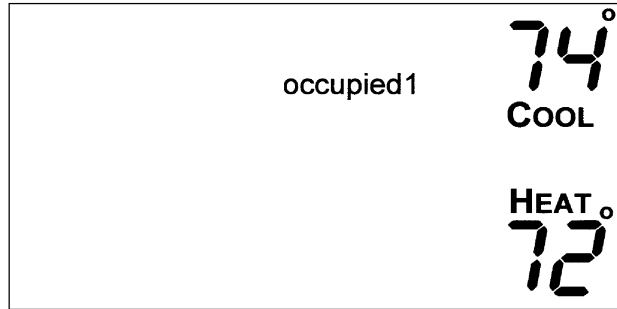

Fig. 5 — Setting Occupied 1 Set Points
1. Enter programming mode by pressing the Program button. The Occupied 1 annunciator will appear on the thermostat display. Use the UP ARROW and DOWN ARROW buttons to set the maximum number of Occupied periods for each day. The thermostat can be set to 1, 2, or 3. After the number of Occupied periods has been selected, press the Mode button. See Fig. 5.
2. The cooling set point for Occupied 1 will be displayed. Use the UP ARROW and DOWN ARROW buttons to raise or lower the cooling set point until the desired temperature is shown. The range of acceptable values is 35 to 99 F (1 to 37 C). Press the Mode button to continue. See Fig. 5.
- The heating set point for Occupied 1 will be displayed. Use the UP ARROW and DOWN ARROW buttons to raise or lower the heating set point until the desired temperature is shown. The range of acceptable values is 35 to 99 F (1 to 37 C). Press the Mode button to continue. See Fig. 5.